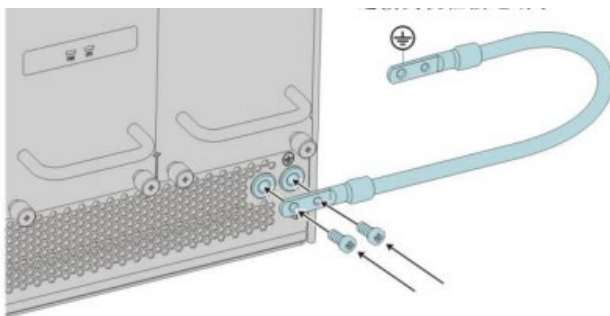

Figure 36: Grounding the device
- ☐ Install the grounding screw at the rear of the device to the protective conductor (See figure 36).